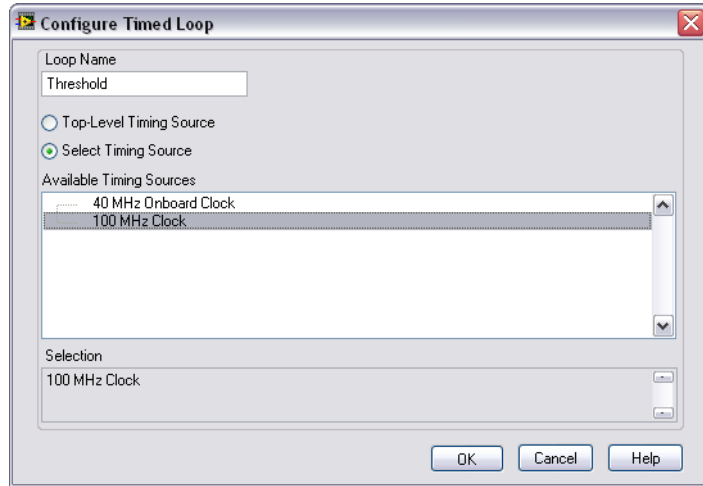

Figure 7. Configuring the Timed Loop Properties
22. In the Configure Timed Loop window, configure the loop as shown in Figure 7.